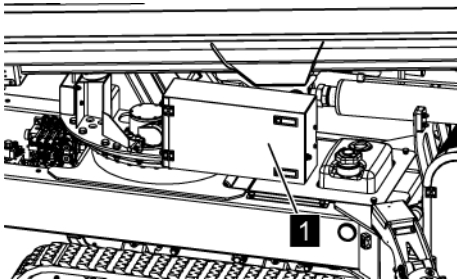

Fig. 167: Hydraulic control box
6. → Open the hydraulic control box (Fig. 167/1).